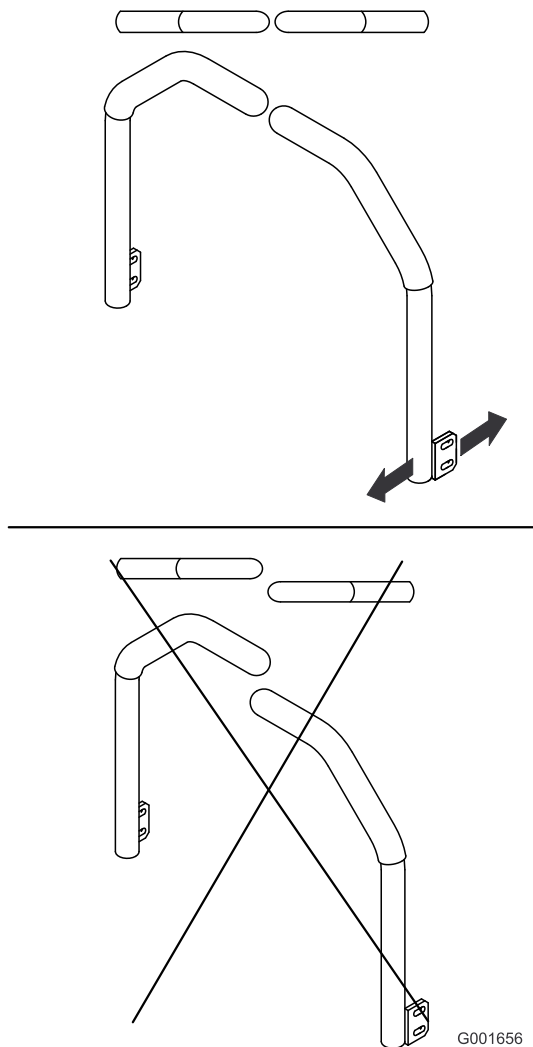

Figure 59
- Adjust the control levers so that they line up and tighten the bolts, securing the levers to the posts (Figure 59).